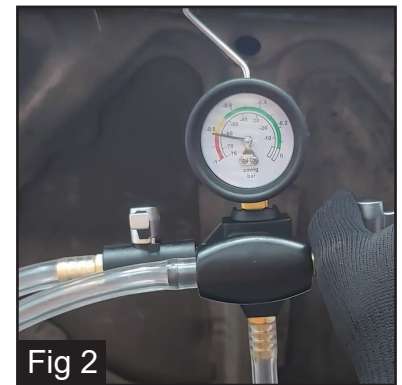

Fig 2
- 8 Open the air valve and vacuum can be created (Fig 2).